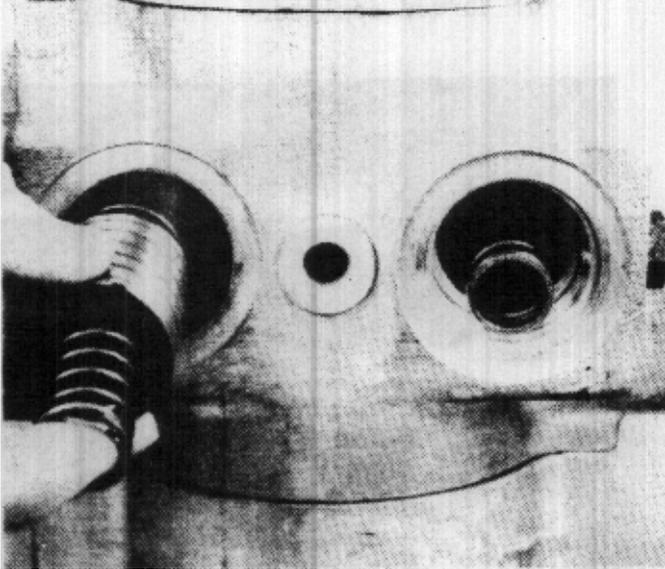

FIGURE 107
56. Remove the motor from the vise to assemble the valve parts in the valve body (3).
57. Install a piston (27) and spring (32) in each piston bore. (Fig. 107)